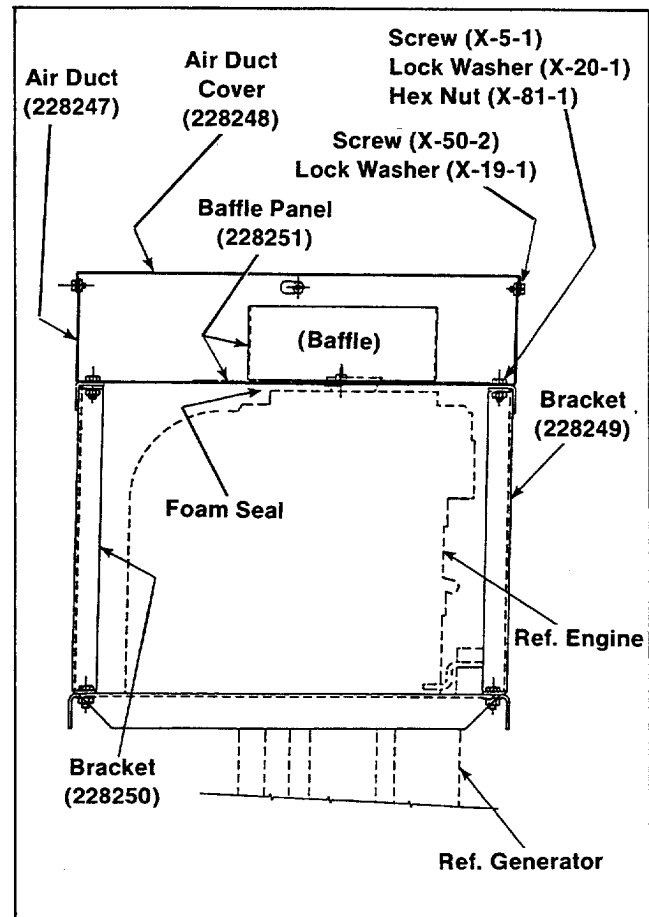

Figure 4. Air Duct Cover
- Position air duct cover (228248) on air duct assembly. See Figure 4. Align holes in cover with holes in air duct assembly and secure with seven screws (X-50-2) and lock washers (X-19-1).